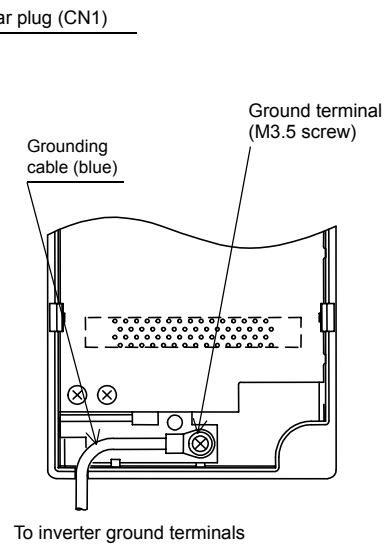

Fig. 3 Rear the SI-P1/V7 Unit
- 4) Connect the correct grounding cable to the grounding screw shown in Fig.3 before mounting the SI-P1/V7 unit on the inverter. Three types of grounding cables corresponding to various inverter capacities are provided. Connect the correct cable with a crimped terminal. See Table 1.